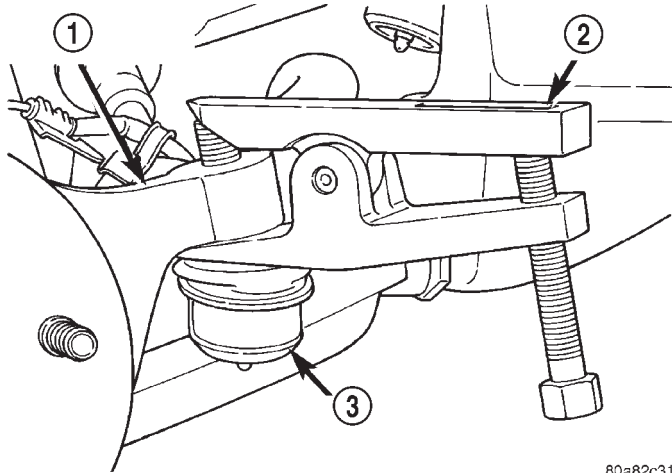
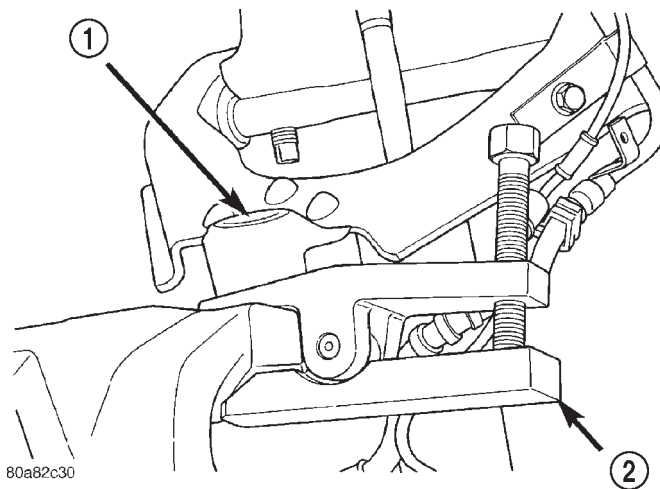

Fig. 6 Tie Rod End
Fig. 7 Upper Ball Joint
- (1) Raise and support vehicle.
- (2) Remove wheel and tire assembly.
- (3) Remove brake caliper, rotor, shield and ABS wheel speed sensor if equipped. Refer to Group 5 Brakes.
- (4) Remove front driveshaft, refer to Group 3 Differential and Driveline.
- (5) Remove tie rod end cotter pin and nut. Separate the tie rod from the knuckle with Remover MB-991113 (Fig. 6).
- (6) Support the lower suspension arm with a hydraulic jack and raise the jack to unload the rebound bumper.
- (7) Remove the upper ball joint cotter pin and nut. Separate the ball joint from the knuckle with Remover MB-991113 (Fig. 7).